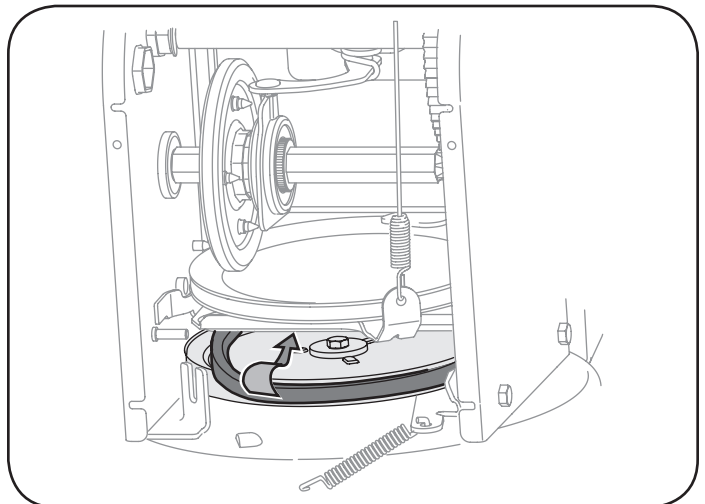

Figure 24
7. Remove the belt from around the auger pulley, and slip the belt between the support bracket and the auger pulley. See Figure 24.